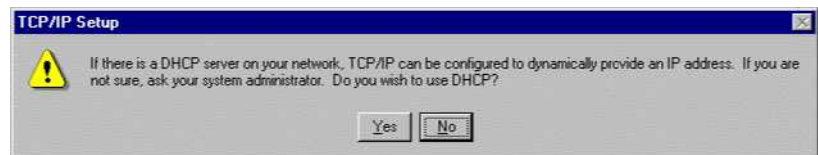

Fig. 8-13 TCP/IP setup
- If your administrator has assigned you a specific TCP/IP address, select "No" in the dialog box (Fig. 8-13). The installation shown here uses a specified TCP/IP address.